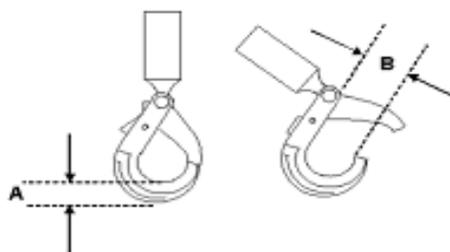

Figure 4. Shank Hook
- d. Inspect the hook for the dimensions shown in Figure 4 and Table 2. If dimensions exceed those in Table 2, remove the swivel from service.